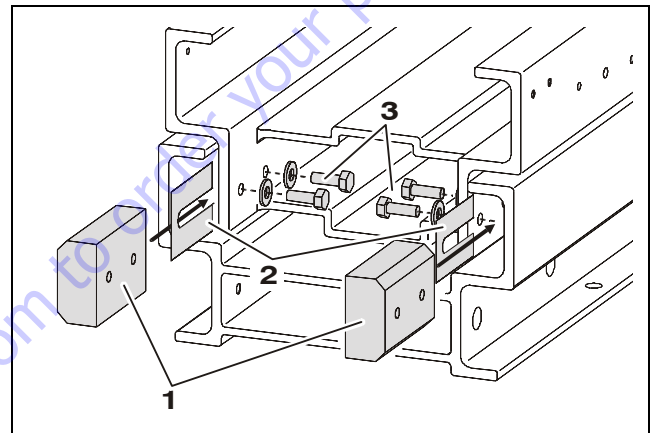

Figure 5-17. Mast Bottom End - Slide Pad Installation (Typical)
26. Thread slide pad attaching bolts, two (2) 1/4"-20UNC x 3/8" long hex head bolts, place a flat washer under head of each bolt, through holes in outside rail, on top of mast section-2 and into the slide pad inserts. Thread in enough to hold pad in place.
28. Insert slide pads into the bottom end mast rails between section-2 and -3, (one on each side of the mast), with beveled surface facing out towards section-2. (Same as Figure 5-17. on page 5-19)
29. Thread slide pad attaching bolts, two (2) 1/4"-20UNC x 3/8" long hex head bolts, place a flat washer under head of each bolt, through holes on inside rail, on bottom end of mast section-3 and into the slide pad inserts. Thread in enough to hold pad in place.
31. Slide section-3 out the bottom of section-2 approximately one (1) foot.
32. Locate one (1) of the chain (bottom) anchor brackets (one with threaded holes horizontally aligned to outside of bracket). Attach using outer set of holes in bottom of mast section-3 with two (2) 1/4"-20UNC x 3/4" long bolts, place a flatwasher under head of each bolt.
33. Slide section-3 out the top of section-2 approximately one (1) foot.